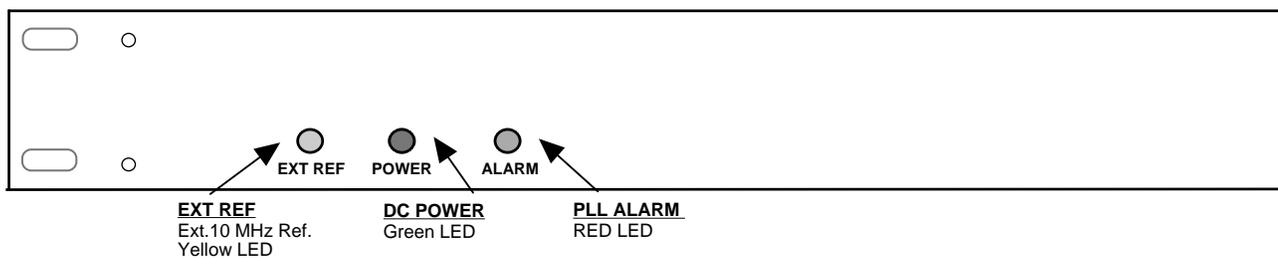

FIGURE 2.2 2083-0372 Front Panel Indicators
Figure 2.2 shows the front panel indicators.
4. Be sure DS6 (green, DC Power) is on and DS2 (red, Alarm) is off (Figure 2.2).